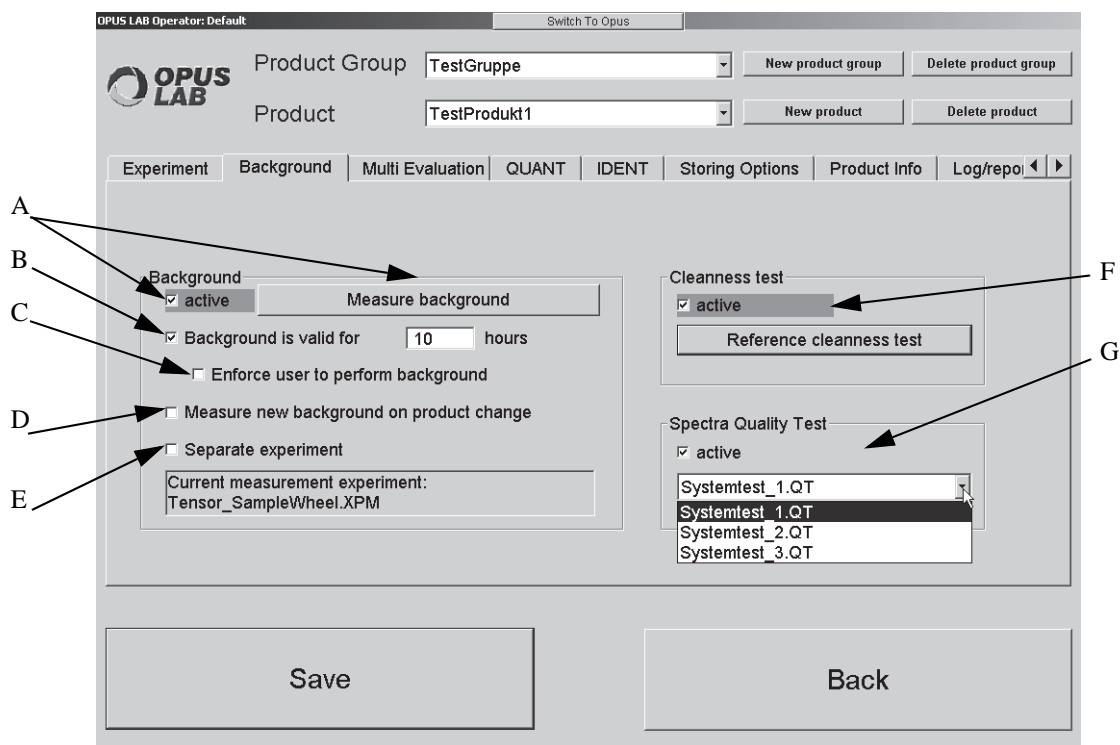

Figure 12: OPUS LAB Product Setup - Background
- A) If the *Active* check box is activated, background measurements can be performed at any time. When clicking the *Start* button (see chapter 4.1), another dialog opens with the *Measure background* button displayed. Click this button. If the *Active* check box (figure 12) is deactivated, the *Measure background* button will be grayed out.